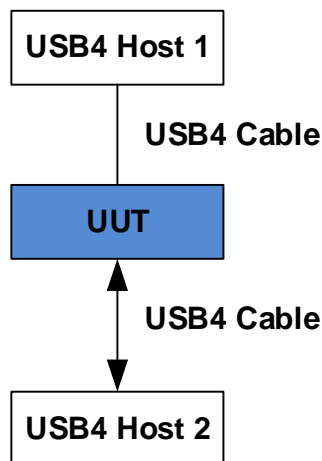

Figure 4-5: USB4 Host-to-Host Communications with a UUT (USB4 Hub Under Test) in Between
1. Connect 2 USB4 Hosts (with a USB4 Hub Under Test in between) as shown in Figure 4-5.